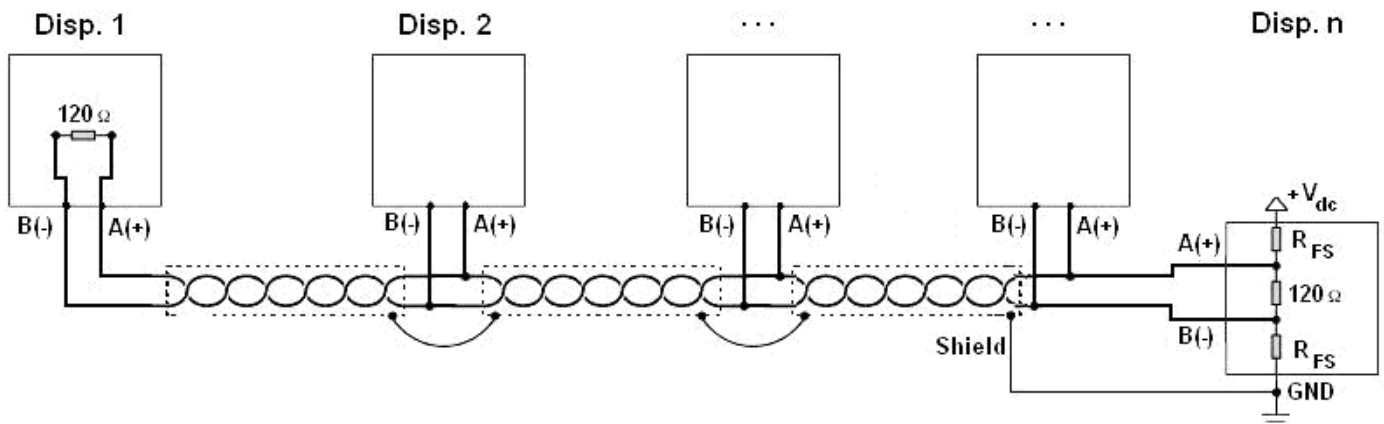

Figure 1: electrical diagram of RS485 connections.
- The shielding can be connected into a single point of the entire network (as shown in Figure 1) or both its ends, however it's important that **all the masses have the same potential**, in order to avoid the forming of current rings.
- On the RS485 network normally one connects 2 **termination resistances** equal to the characteristic impedance of the cable (typically 120 Ω , see Figure 1), **ONLY** on the 2 devices **which are at the 2 ends of the cable**. The terminal resistance is not supplied with the ports of the indicator.
To create a resistive divider which maintains this difference of potential also when all the transmitters are disabled, inert in the RS485 port of the indicator where there are the termination resistances, the **polarisation** or **fail-safe resistances** (R_{FS} in Figure 1). The value of these resistances is between 390 Ω and 2,2 k Ω .